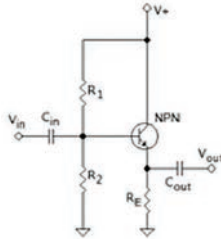

Figure 6.43 Ch 6: No. 16, self-test
16. For the BJT CC amplifier of Figure 6.43, determine the input resistance R_{in} , output resistance R_o , and voltage gain A_V , if R_1 is 4 k Ω , R_2 is 3 k Ω , R_E is 2.5 k Ω , R_S is 400 Ω , R_L is 1.5 k Ω , V_{CC} is 10 V, V_{in} is 6 mV, and h_{fe} is 150. (Assuming a silicon BJT.)